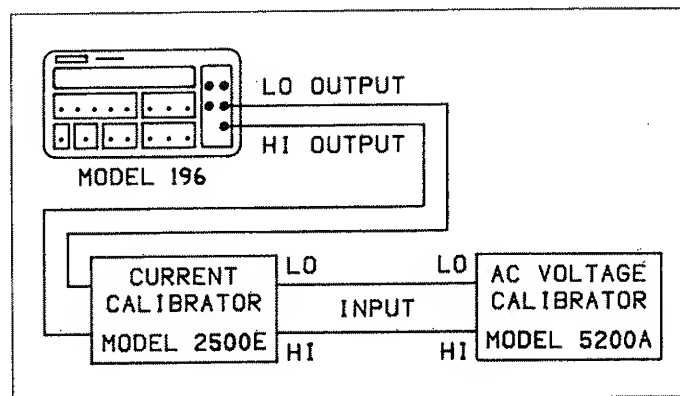

Figure 4-6. Connections for TRMS AC Current Verification
2. Connect the AC current calibration source to the Model 196 as shown in Figure 4-6.